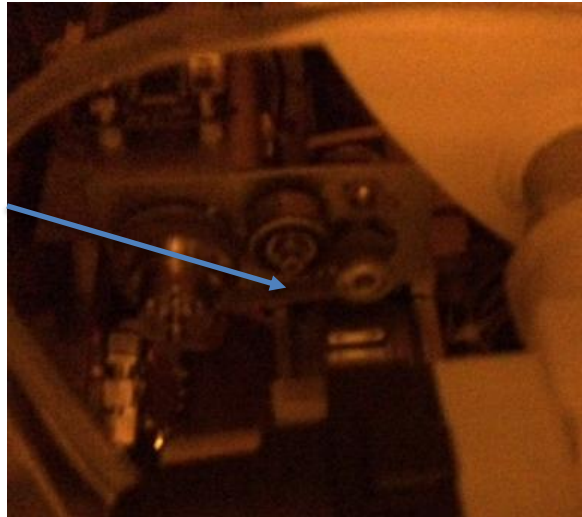

Figure 9: Dispense Arm Belt
- Open the bottom cabinet and inspect the dispense arm belt for wear and tightness. See Figure 9.